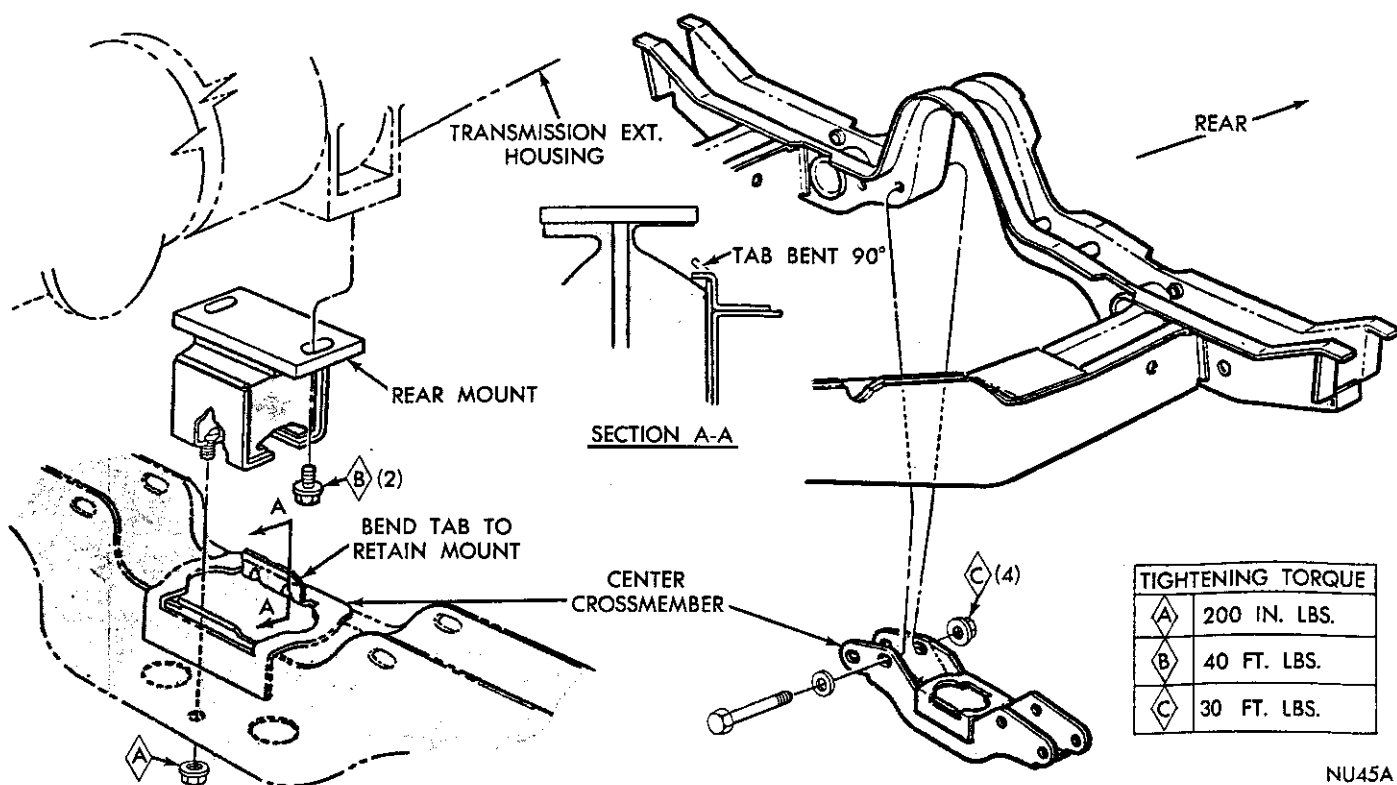

Fig. 10—Center Crossmember and Rear Engine Mount (Dart)
(3) Remove the speedometer pinion and adapter.
(4) Remove bolts securing extension housing to crossmember. Raise transmission slightly with service jack and remove center crossmember (Fig. 10).
(5) Remove extension housing to transmission bolts and slide extension housing off the mainshaft.
- (3) Disconnect speedometer cable and back-up light switch leads.
- (4) Install engine support fixture C-3487-A, mounting hooks firmly into holes in side frame members with support ends up against underside of oil pan flange. Use Adapter Leg C-3806 on 6-cyl. engines.
- (5) Raise engine slightly with support fixture. Disconnect transmission extension housing from removable center crossmember (Fig. 10).
- (6) Support transmission with a suitable jack and remove center crossmember. Remove bolts that attach transmission to clutch housing.
- (7) Slide transmission rearward until pinion shaft clears clutch disc before lowering transmission. (This precaution will avoid damaging the clutch disc.)
- (8) Lower transmission and remove from under vehicle. Clean outside of transmission.